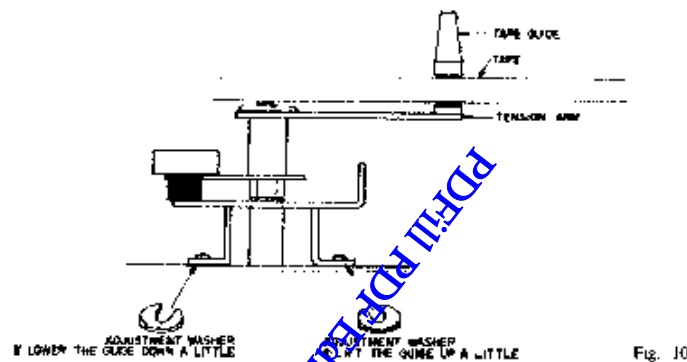

Fig. 10
18. TAPE GUIDE HEIGHT ADJUSTMENT (Refer to Fig. 10)
- 2) In case the tape guide is low, adjust by inserting a U Type Washer on the right side in Fig. 10, and in case it is high, adjust by inserting a washer on the left side.